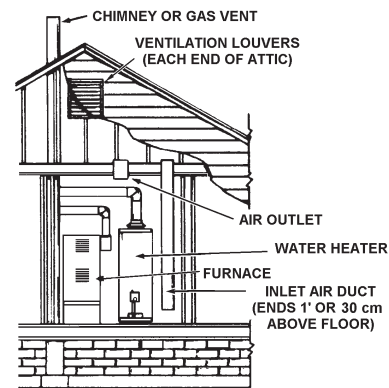

FIGURE 12.
- When directly communicating with the outdoors, each opening should have a minimum free area of 1 square inch per 4,000 Btu per hour (5.5 cm²/kW) of total input rating of all equipment in the enclosure, see Figure 12.
- When communicating with the outdoors through vertical ducts, each opening should have a minimum free area of 1 square inch per 4,000 BTU per hour (5.5 cm²/kW) of total input rating of all equipment in the enclosure, see Figure 12 on page 11.